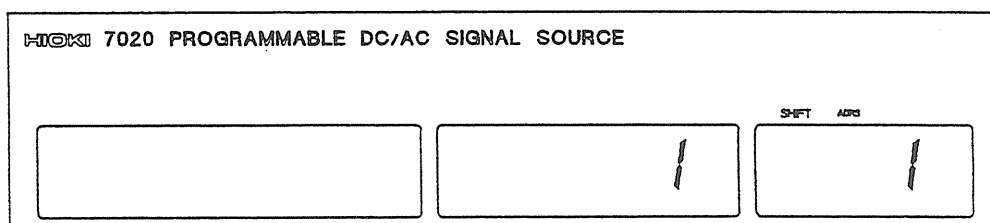

Fig. 6-3 Address Display
- (1) Press the SHIFT key once. The SHIFT indicator will light, showing that the unit is waiting for you to specify the mode.
- (2) Enter 5 to set mode 5 (GP-IB address setting.)
- (3) The display will look as shown in Fig. 6-3. Enter the unit address with the numerical key 5.
- (4) Press the SHIFT key again. This completes the setting procedure.